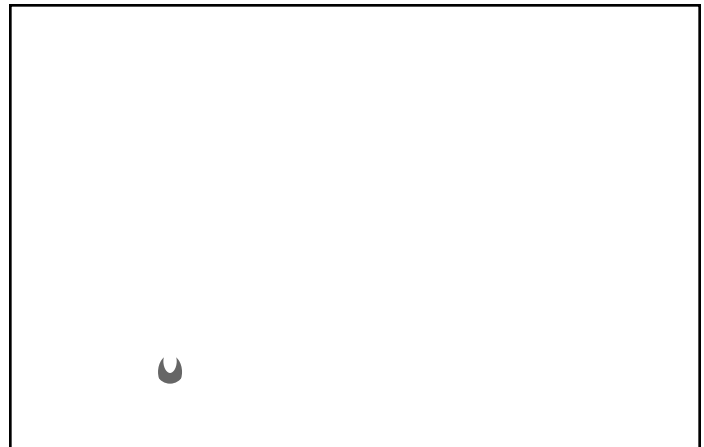

Figure 45
3. Attach foot pump's hydraulic hose to lift ram's quick coupler. (See Figure 45.)
1. Attach foot pump's hydraulic hose to lift ram's quick coupler. (See Figure 45.)